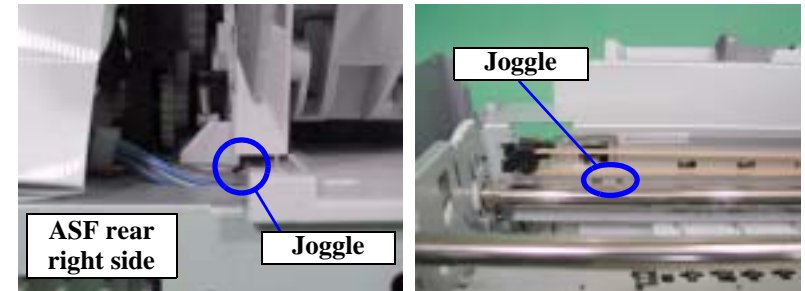

Figure 4-27. Reinstalling the ASF Unit 2
- When reinstalling the ASF Unit, insert the joggle under the left side, as viewed from the printer rear, into the Lower Frame, and the joggle on the rear side into the Front Frame, and make sure that the tooth surface of the Spur Gear 32 in the ASF Unit engages with the tooth surface of the Combination Gear 14, 28 in the DE Unit. Refer to Figure 4-27, "Reinstalling the ASF Unit 2".